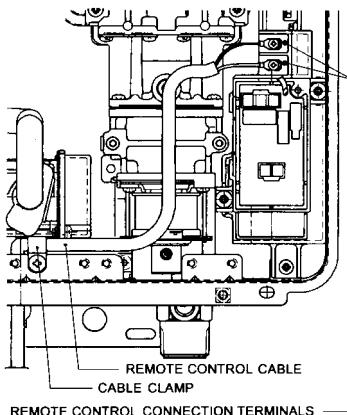

fig.2
4. Connect the spade connectors to the terminals marked "Remote Control" on the printed circuit board (fig. 2). Polarity is not important. Either wire colour can be connected to either terminal.
9. Connect the 4 spade connectors to the terminals marked "Remote Control" on the printed circuit board (fig. 2). Polarity is not important. Either wire colour can be connected to either terminal.